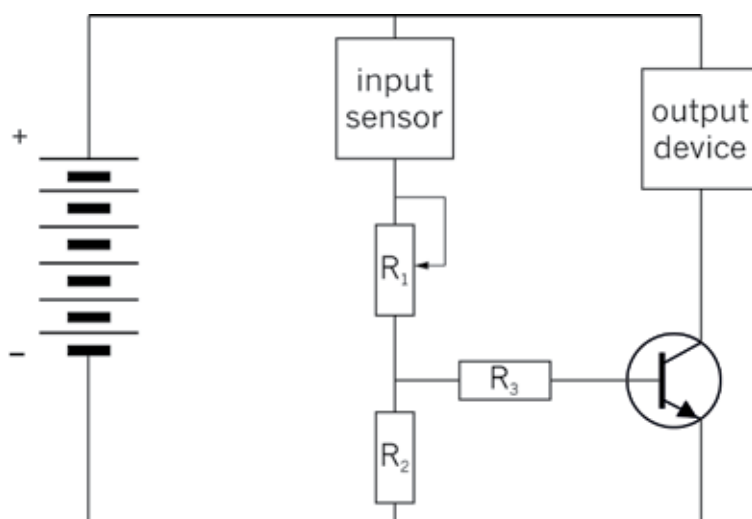
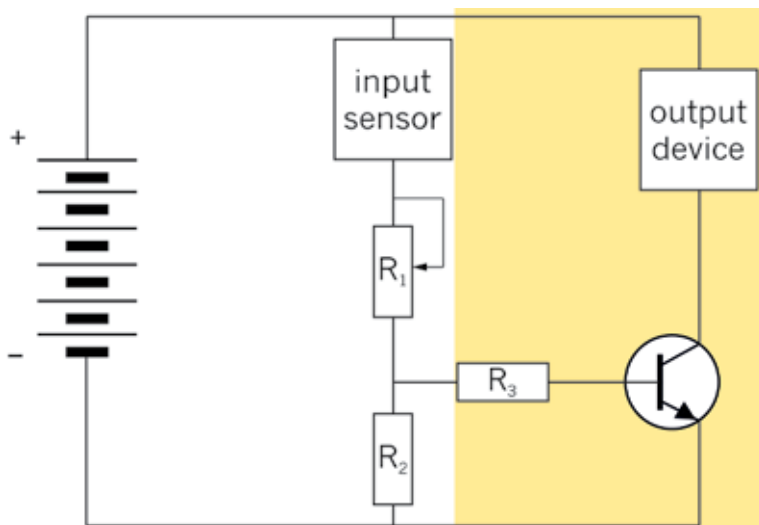

Figure 5: The circuit diagram for the control circuit
Figure 7
- If a *decrease* in resistance of the input sensor should switch on the output device, then resistor 2 and the input sensor should be arranged as in Figure 5. Look back at the circuit for a day/night switch using a light-dependent resistor (LDR) on page 48.
- If an *increase* in resistance of the input sensor should switch on the output device, then resistor 2 and the input sensor should be arranged in the opposite way of Figure 5. Look back at the circuit for a heat-activated switch using a negative-temperature coefficient (NTC) thermistor on page 51.
Figure 7 shows how the circuit in Figure 5 is the same as the systems diagram.